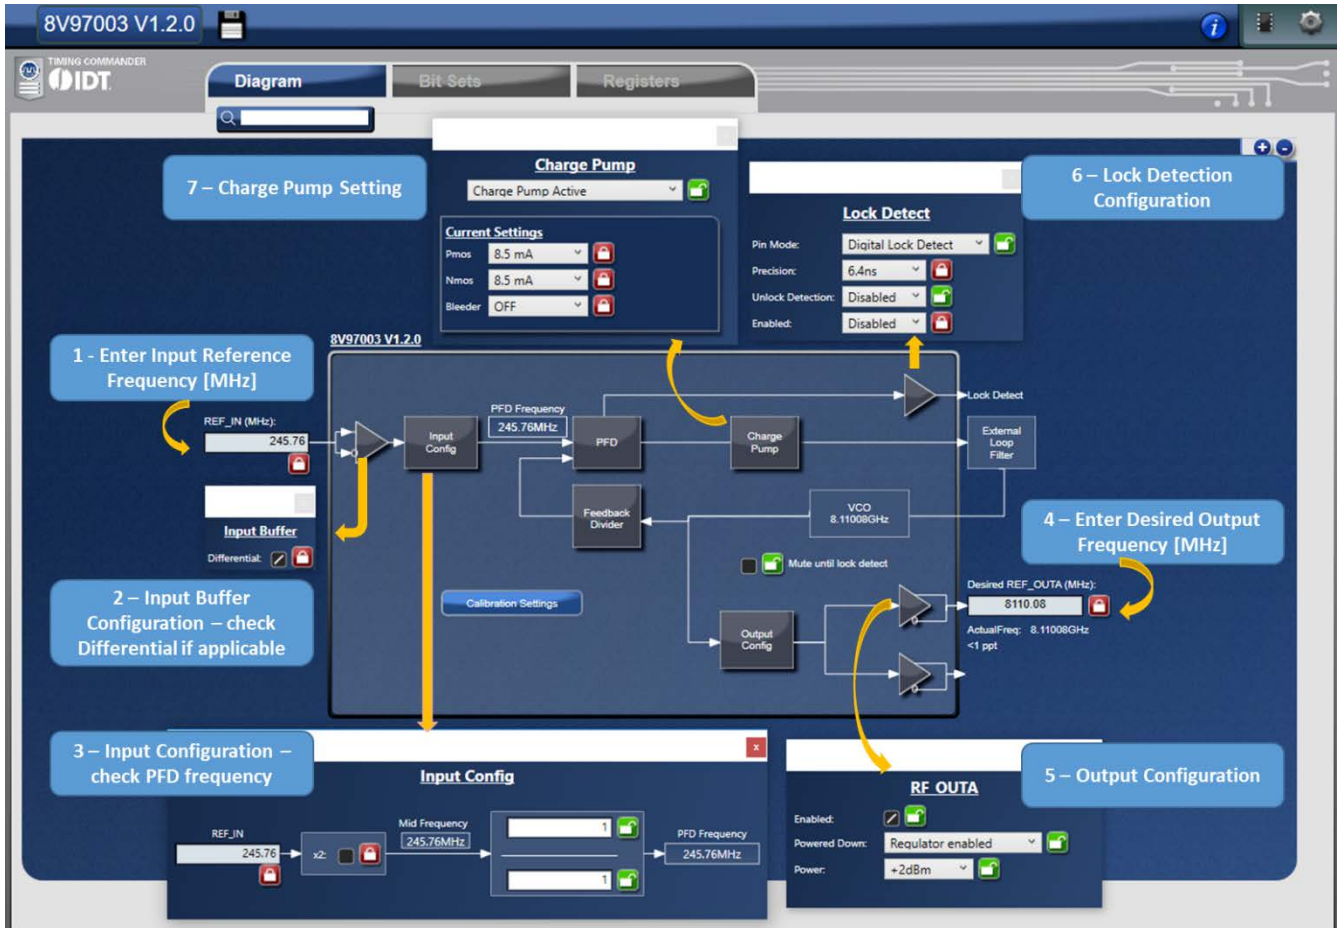

Figure 18. Timing Commander GUI for Creating New Integer Mode Configuration
- b. Charge pump current can be used to vary the loop bandwidth, hence optimize phase noise and/or integrated RMS jitter. Set Pmos = 8.5mA, Nmos = 8.5mA, Bleeder = OFF. With the Bleeder off, the noise from the modulator will degrade phase noise performance as shown in Figure 18